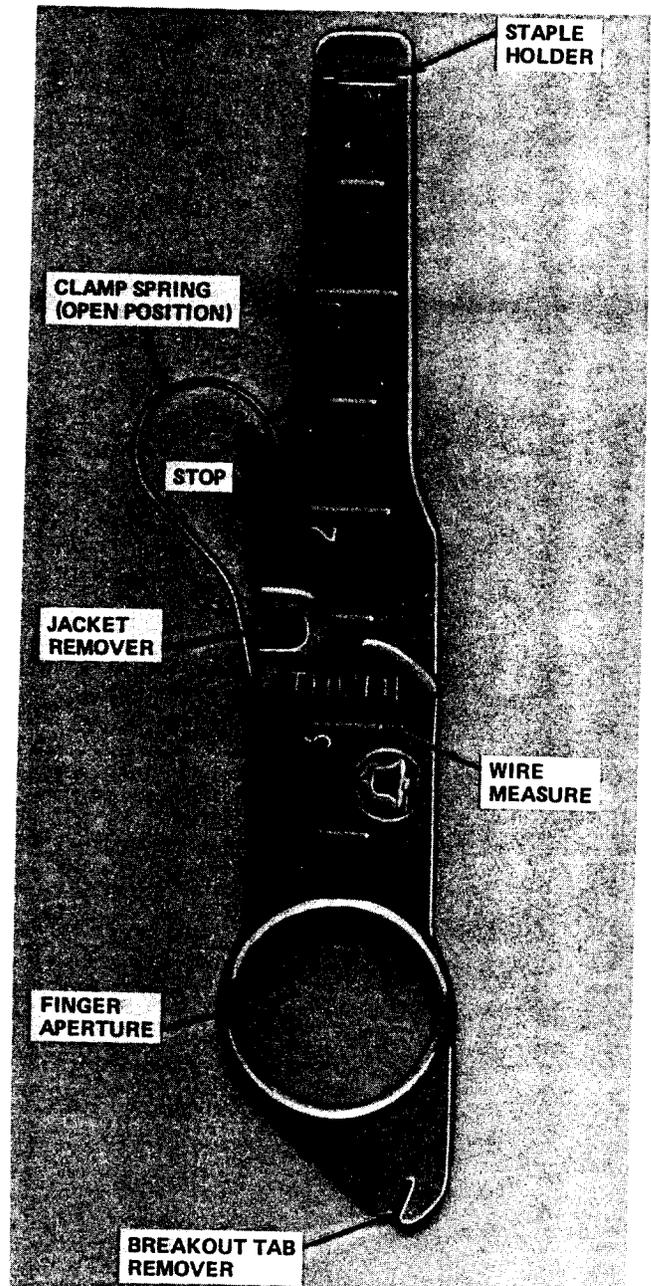

Fig. 1—953A-S Tool
1.03 The 953A-S tool (Fig. 1) will be packaged in a special blister pack which will include complete instructions for its use.